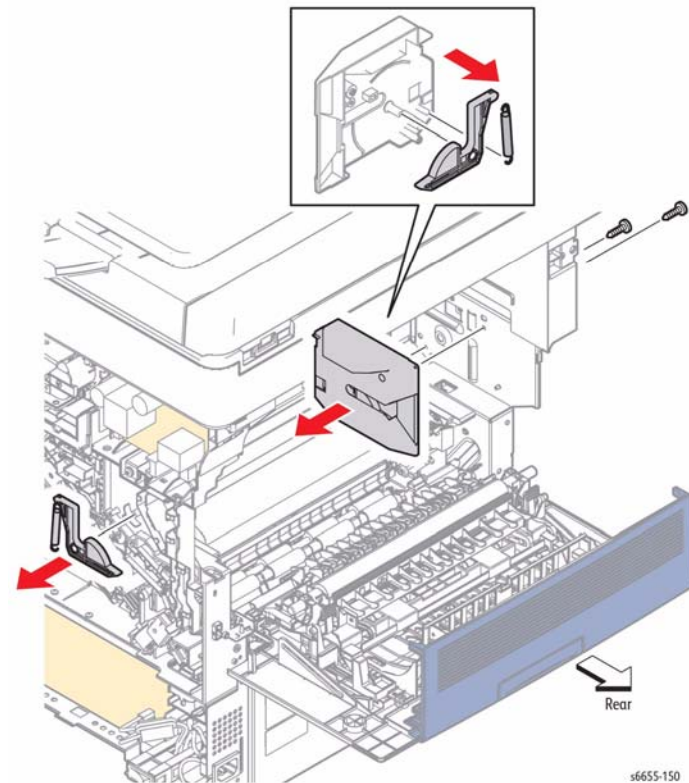

Figure 1 Remove the Left Rear Latch
3. Refer to Figure 1 to locate and remove the two screws (silver, tapping, 8 mm) that attach the Left Latch Bracket to the printer and remove the Left Latch Bracket.
4. Referring to the inset in Figure 1, remove the Left Rear Latch and the Latch Spring from the Left Latch Bracket.